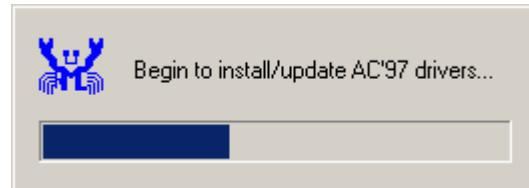

Figure 7-12: Audio Driver Installation Begins
Step 11: Driver installation begins. (See **Figure 7-12**)